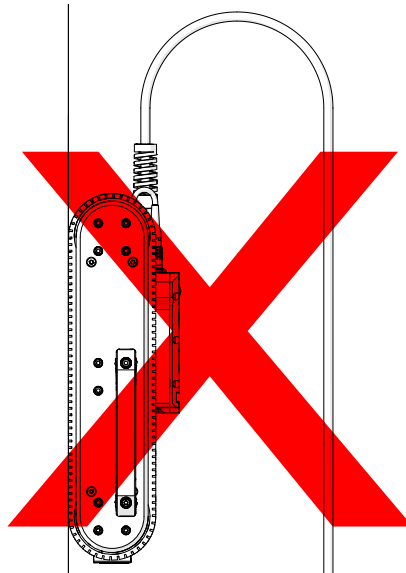

Fig. 52 - Incorrect use
WARNING! FALLING OBJECT HAZARD. or operating at heights greater than 2 m (6 ft), ensure the umbilical strain relief never points upwards as shown in (Fig. 52). The crawler could fall. **SEVERE INJURY** or **DEATH** could result.
3. Ensure the umbilical strain relief never points upwards during operation (Fig. 52).